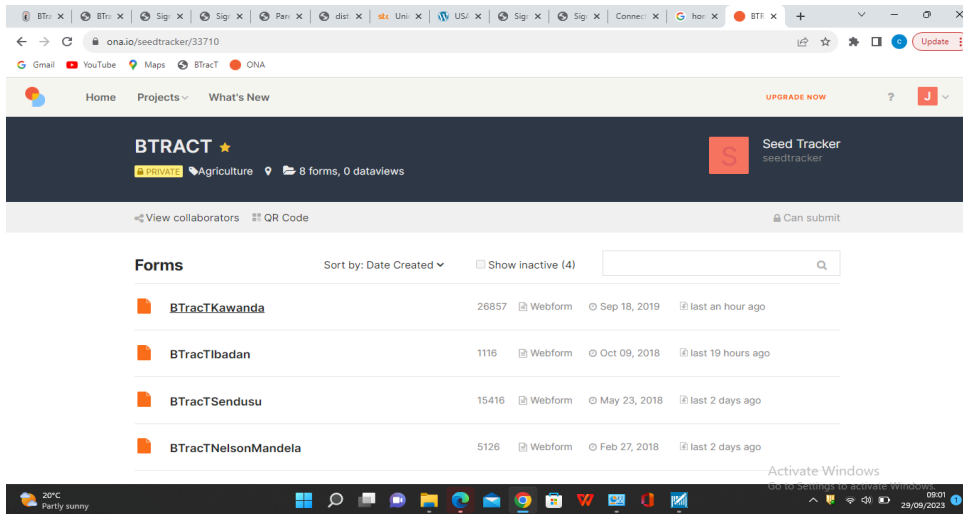

Figure 3: BTractT site stations on webform
- Import of the webform is done as in figure 3